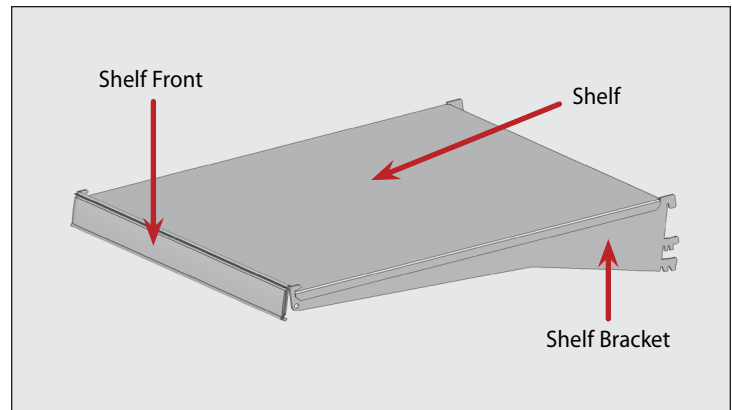

Fig. 1. The cantilever shelf components.
1. Position the shelf brackets in front of the shelf standard at the desired height. See fig. 1.